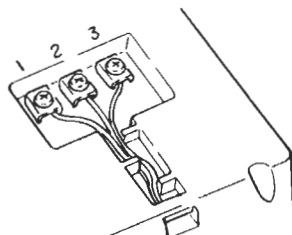

Figure 3
3. Connect the other end of the cable to the bottom of the Control unit. Refer to Figure 3 and connect it to the terminal securely.